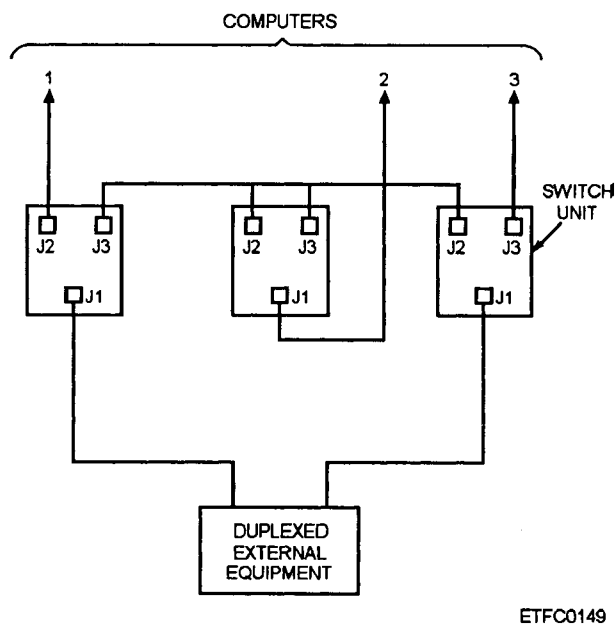

Figure 13-15.—Sample manual switching configuration.
**Manual switchboards** are made up of variable configurations of three-position or five-position switches (figure 13-14). Each switch must be manually positioned for the interconnection required by the current system configuration. At least two manual switches, one for input and one for output, are required for each I/O device or computer channel to allow for the complete range of system configuration requirements (figure 13-15). Manual switchboards are for the most part being replaced by remotely controlled switchboards.